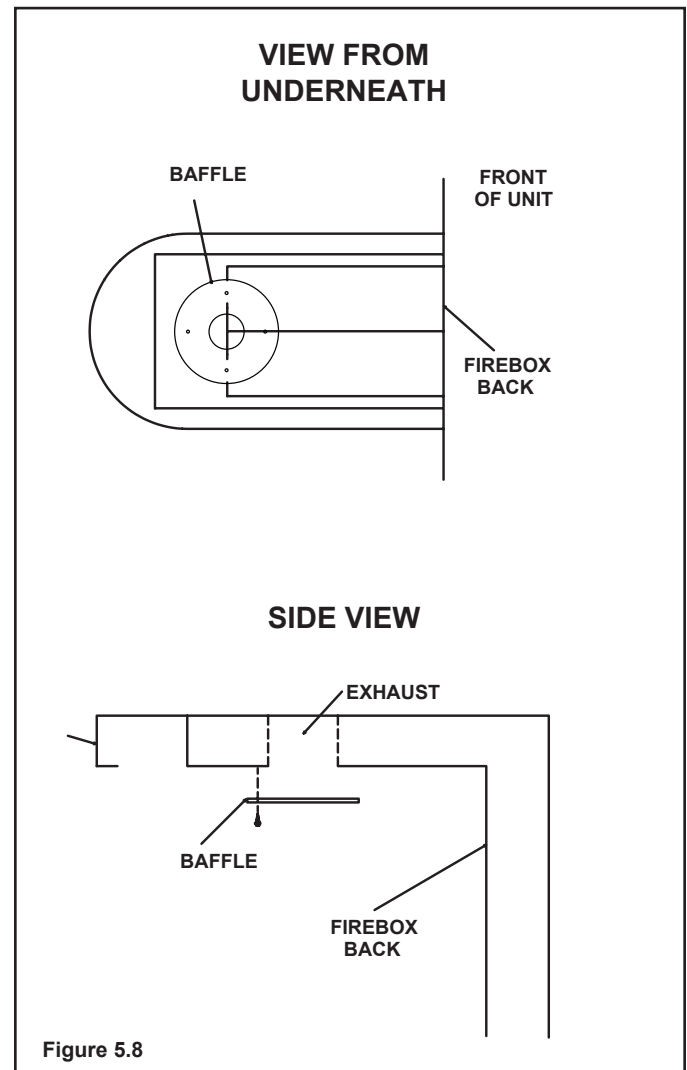

Figure 5.8
1. Install the baffle over the center of the exhaust outlet in the firebox (see Figure 5.8).